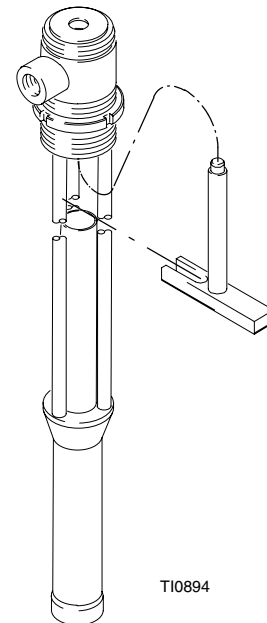

Fig. 5
4. Unscrew the piston valve housing (109) from the lower connecting rod (115). Unscrew the piston body (113) from the piston valve housing (109).
5. Unscrew the lower connecting rod (115) from the upper connecting rod (120). Remove the cup packings (107), bearing (108) and backup washer (114).
6. Lubricate the packings (107**) and bearing (108**) with no. 2 lithium-based grease. Install the backup washer (114) on the lower connecting rod (115), making certain that the grooves face up.
7. On the upper connecting rod (120), install one cup packing (107**) with the lips facing up, the bearing (108**), and the second packing (107**) with the lips facing down. Reconnect the upper and lower connecting rods. Torque to 20-25 ft-lb (27-34 N.m).
8. Lubricate the packings (111**) and bearing (112**) with no. 2 lithium-based grease. On the piston (113), install one cup packing (111**) with the lips facing down, the bearing (112**), and the second packing (111**) with lips facing up. Install the backup washer (110), with the grooves facing down.
9. Place the ball (104**) atop the piston body (113), then screw the piston body and piston housing (109) together. Torque to 30-35 ft-lb (41-48 N.m). Screw the piston valve housing onto the lower connecting rod (115). Install the seal (134**), *with the lips facing down*, in the displacement pump frame (119), then install the bearing (118**). The seal (134**) should be installed from the bottom of the frame using tool 233582. See fig. 5. Use a turning motion to work the connecting rod and piston back into the pump frame (119).
1. Unscrew the air motor connecting ring (AA). Lay the pump on its side and rotate the displacement pump until the ball on the upper connecting rod (320) comes free of the socket in the motor piston rod. Separate the motor from the displacement pump.
2. Unscrew the intake adapter (321) from the intake valve housing (317). Remove the o-ring (322). Unscrew the intake valve housing (317) from the pump frame (319). Disassemble the intake valve.
3. Push down on the upper connecting rod (320) until the fluid piston assembly is clear of the displacement pump frame (319). Pull the piston assembly and connecting rod out of the frame. Remove the bearing (318) and seal (334**) from the frame.
9. Place the ball (304**) atop the piston body (313), then screw the piston body and piston housing (309) together. Torque to 30-35 ft-lb (41-48 N.m). Screw the piston valve housing onto the lower connecting rod (315). Install the seal (334**), *with the lips facing down*, in the pump frame (319), then install the bearing (318**). The seal (334**) should be installed from the bottom of the frame using tool 233583. See fig. 5. Use a turning motion to work the connecting rod and piston into the frame (319).
10. Reinstall the ball (305**) and stop pin (316) in the intake valve housing (317). Screw the housing into the pump frame (319). Place the o-ring (322**) into the inner groove of the intake adapter (321). Screw the adapter onto the intake valve housing (317).
11. Lay the pump on its side and reconnect the upper connecting rod (320) with the air motor piston rod. Tighten the air motor connecting ring (AA).